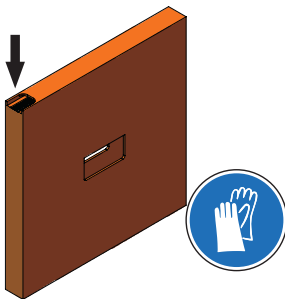

Figure 21: Code tape box: Open here
1. Open the code tape box at the latch (Figure 21)